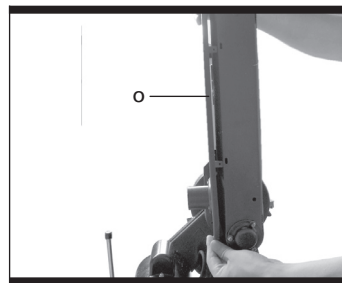

Fig 19-5
- 5) Remove the lower belt cover (o). (Fig 19-5)